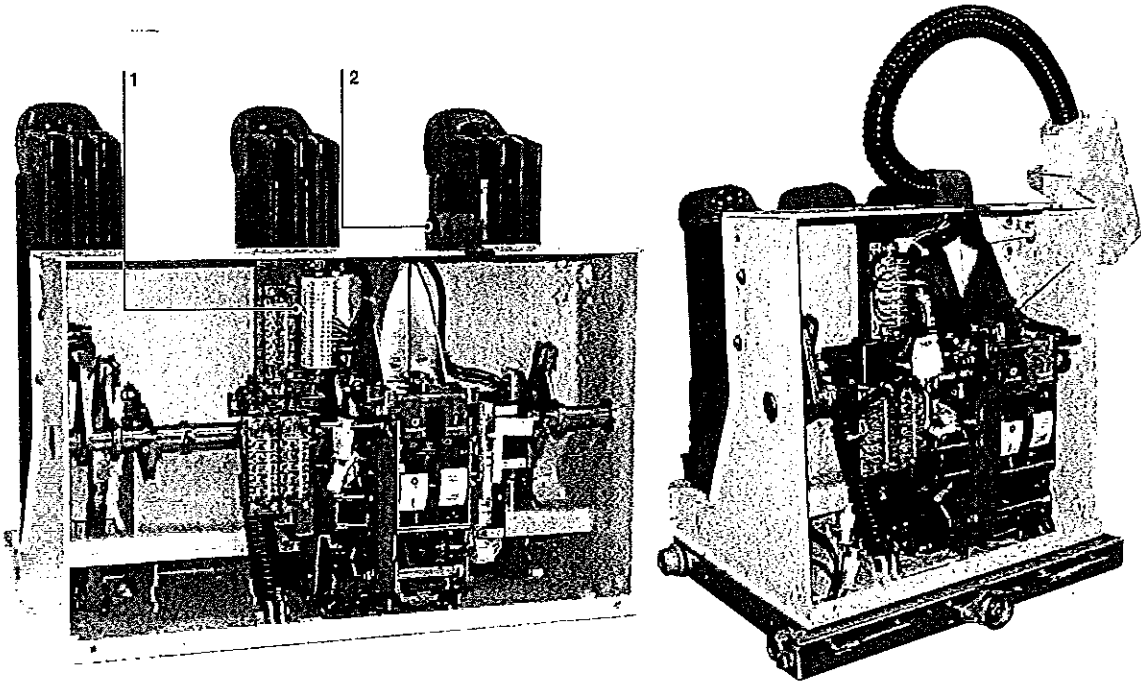

Fig. 10
Connection of the circuit-breaker auxiliary circuits must be made by means of the terminal box (1) (fig. 10) mounted inside the circuit-breaker and the cables must pass through the connector (2).